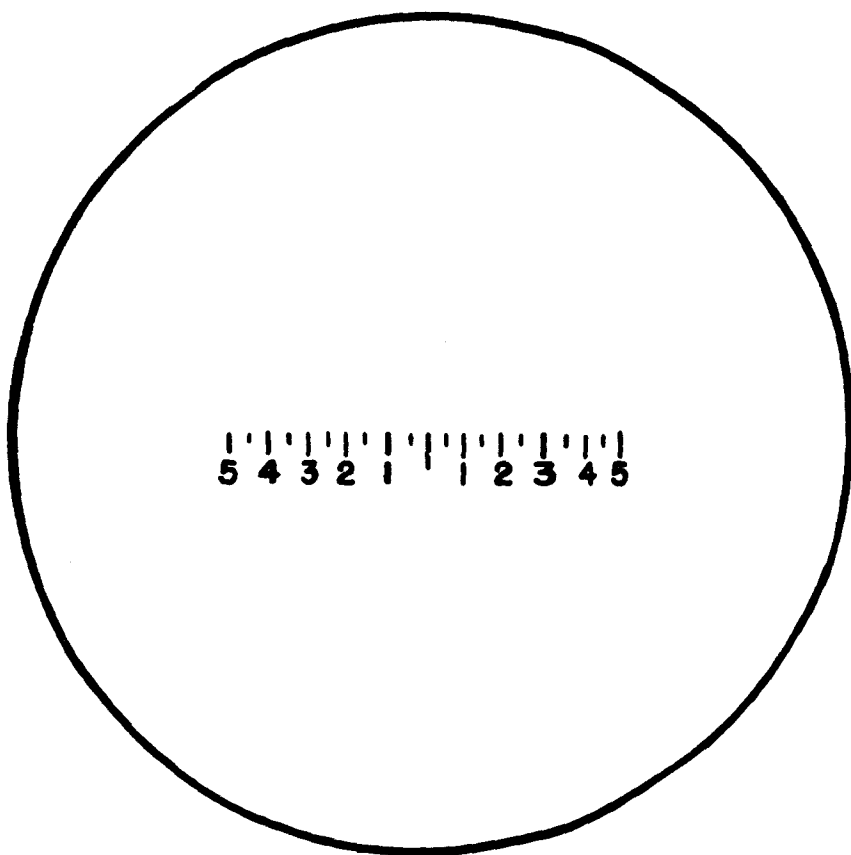

FIGURE 38.—Azimuth reticle, elbow telescope M24.
(1) *Azimuth reticle.*—The reticle of the azimuth telescope has a single horizontal scale marked in mils lead (fig. 38). The minimum graduation is 5 mils and the numbered graduations are multiples of 10.